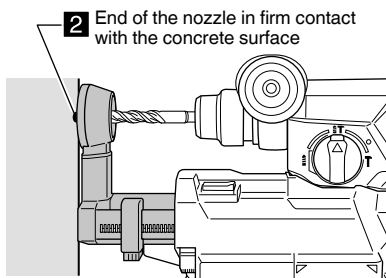

Fig. 11
(2) Release the nozzle and allow it to make firm contact with the surface of the concrete. (Fig. 11)